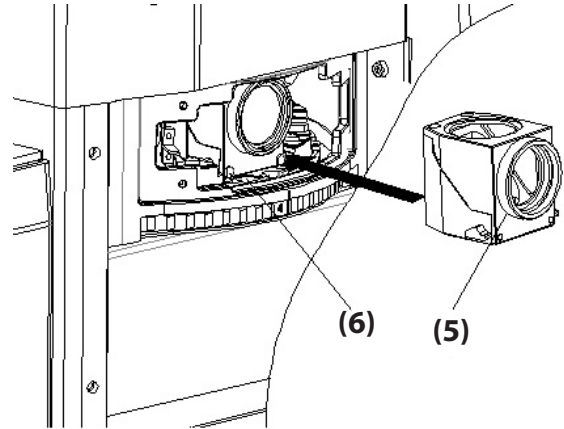

Figure 4
Push the filter cube (5) into the Fluorescent Rotary table until you hear a click (see Figure 4). The Fluorescent Rotary table has a number (6) on each position, which corresponds to the hole number where the filter is installed. Note the position number and type of filter installed for future reference. If more than one filter needs to be installed, rotate the dial on the bottom of the Fluorescent Rotary table and install the next filter, taking note of its type and position. After all filters are in place, replace the cover removed in the last step on the previous page and replace and retighten the screws to secure the cover in place.